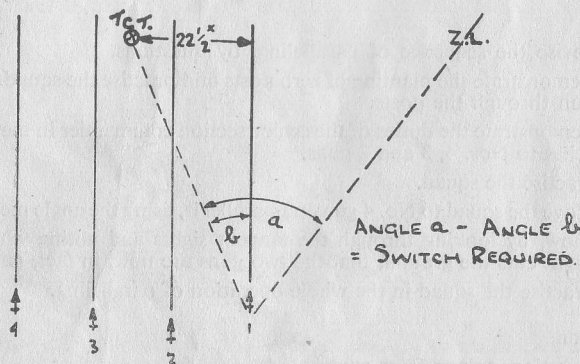

FIG 48
7. Explain that when engaging a point target or a target of less width than the gun frontage, the parallel lines of fire of the four guns should be so laid that they straddle the target. As the lines of fire normally cover a frontage of 45 yards, the line of fire of No. 1 gun should fall  $22\frac{1}{2}$  yards to the right of the centre of the target (*see* Fig 48).